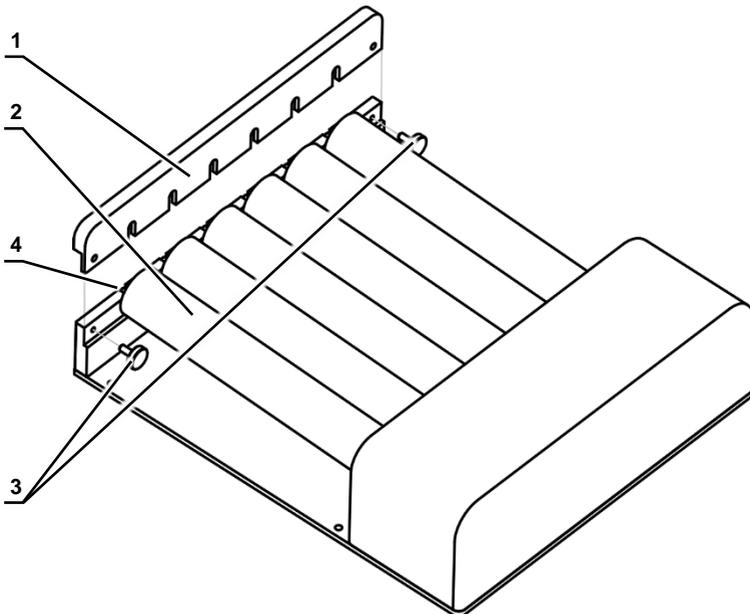

Figure 1. Roller installation
4.3 **Roller installation.** Install the roller (fig. 1/1) to the base mechanism of the rolling unit. Open the back fixation plate (fig. 1/2) by unscrewing both screws (fig. 1/3). Fit the roller on the mechanism shaft (fig. 1/4). The roller must be carefully aligned with other rollers horizontally. Close the fixation plate.